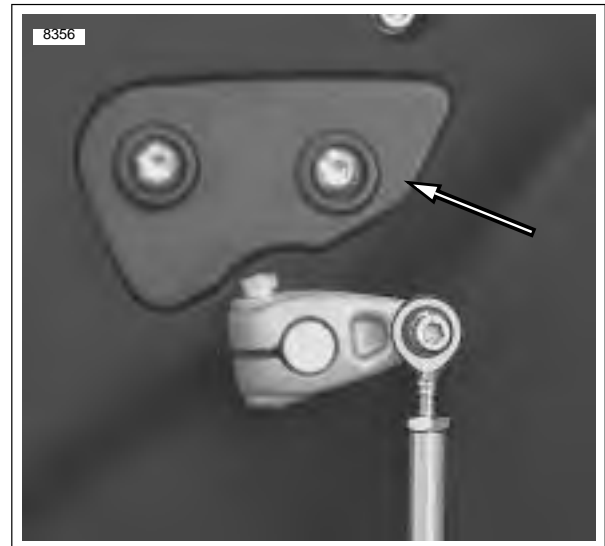

Figure 1-27. Primary Chain Inspection Cover
See Figure 1-27. Measure primary chain tension through the inspection cover opening. Adjust primary chains not meeting vertical free play specifications.
- See Figure 1-27. Remove two fasteners with captive washers and primary chain inspection cover with gasket from primary cover.
- See Figure 1-27. Install primary chain inspection cover and **new** gasket to primary cover using two fasteners with captive washers. Tighten fasteners to 84-108 **in-lbs** (10-12 Nm).